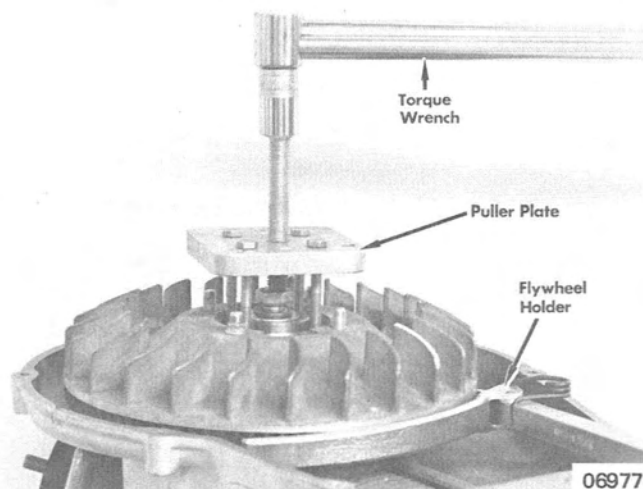

Figure 1. Flywheel Puller Installed
- a. Install Modified End Cap Puller (C-91-25733A3) on flywheel. (Figure 1)